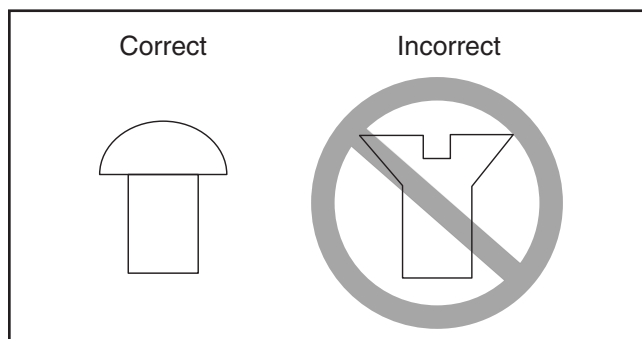

Figure 44. Correct and incorrect screw types.
2. Center the faceplate on the workpiece and attach it, as shown in **Figure 43**, with wood screws that do not have tapered heads (see **Figure 44**).
Only use screws with non-tapered heads (see **Figure 44**) to attach the faceplate to the workpiece. Screws with tapered heads can split the faceplate or snap off during operation.